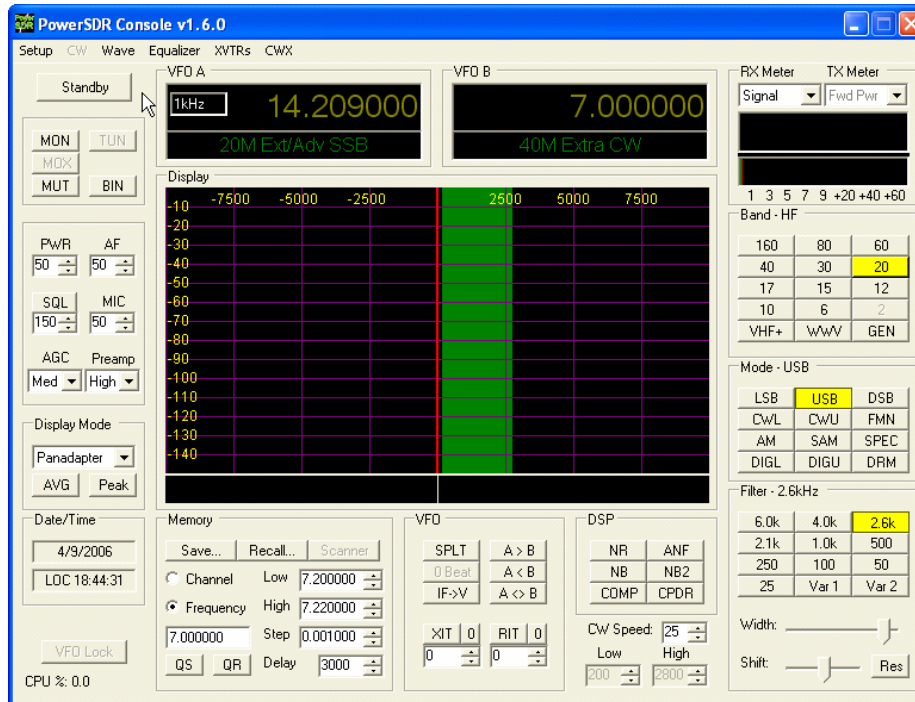

Figure 4.
Step 5. Power on...almost there! (See Figure 4)